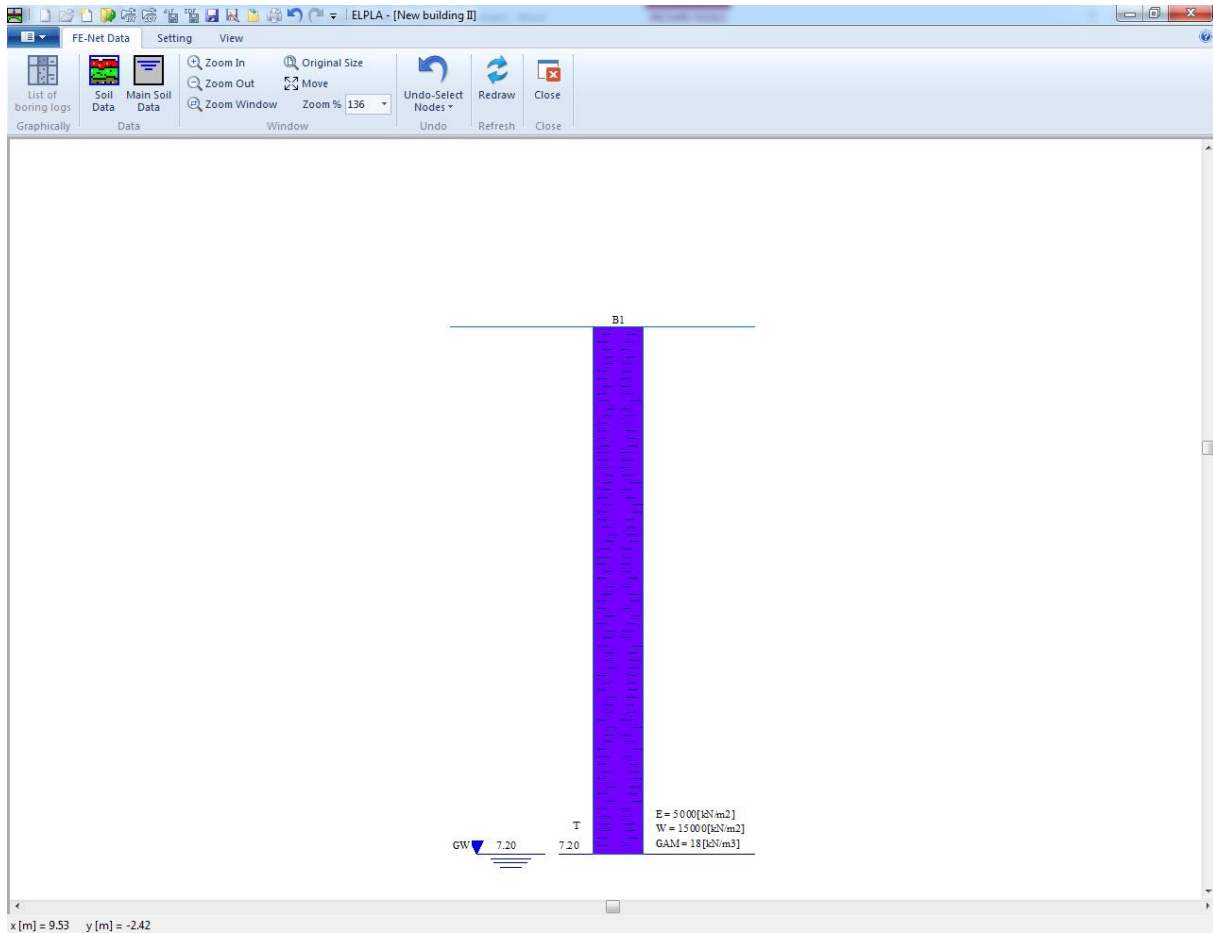

Figure 9.21 Boring log
After the user has completed the definition of all soil properties and parameters, the screen should look like the following Figure 9.21.
- Choose "Save" command from "File" menu in Figure 9.21 to save the data of boring log
- Choose "Close" command from "File" menu in Figure 9.21 to close the "Soil Properties" Window and to return to *ELPLA* main window.